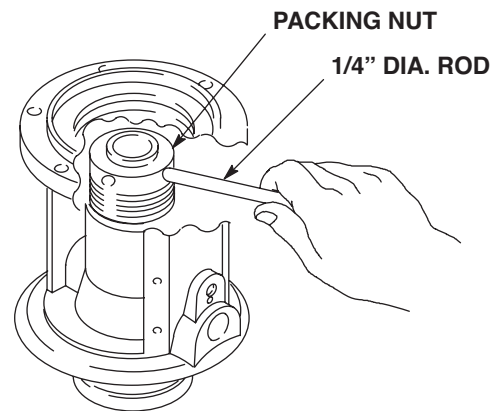

FIG. 14
4. Use a 1/4" diameter rod to tighten the packing nut. First loosen the nut, then tighten snugly, and finally tighten 1/4 turn more. (FIG. 14)